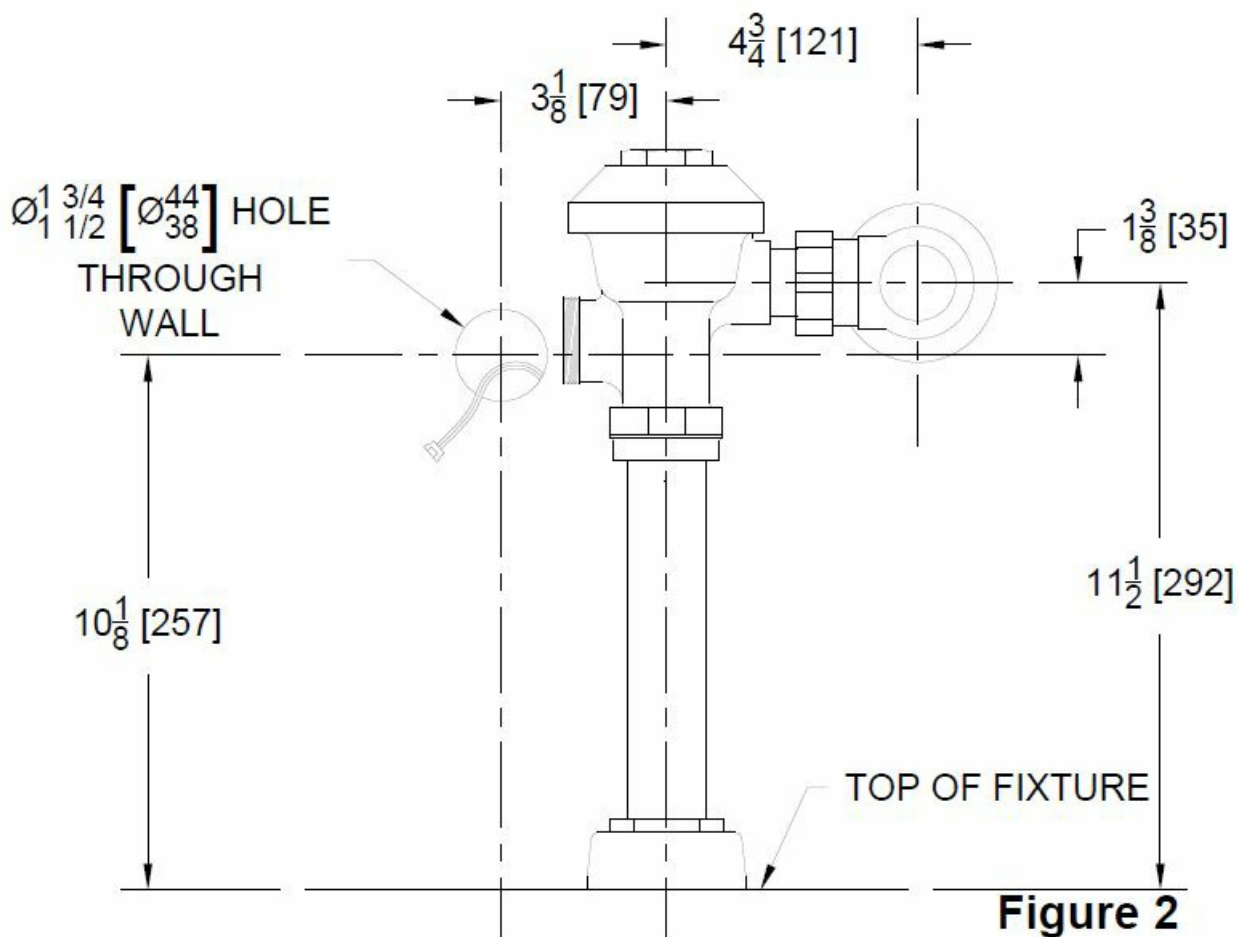

Figure 2
- Connecting wire shall be run from the power supply to the predrilled 1-1/2" diameter holes in the finished wall for final connection to the flush valves. (Figure 2)